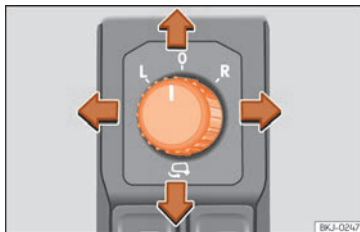

Fig. 149 Exterior mirror controls.
1. Turn knob » » » Fig. 149 to position **L** (left exterior mirror).
- Turn the control » » » Fig. 149 to position to fold in the exterior mirrors. You should always fold in the exterior mirrors if you are driving through an automatic car wash. This will help prevent damage.